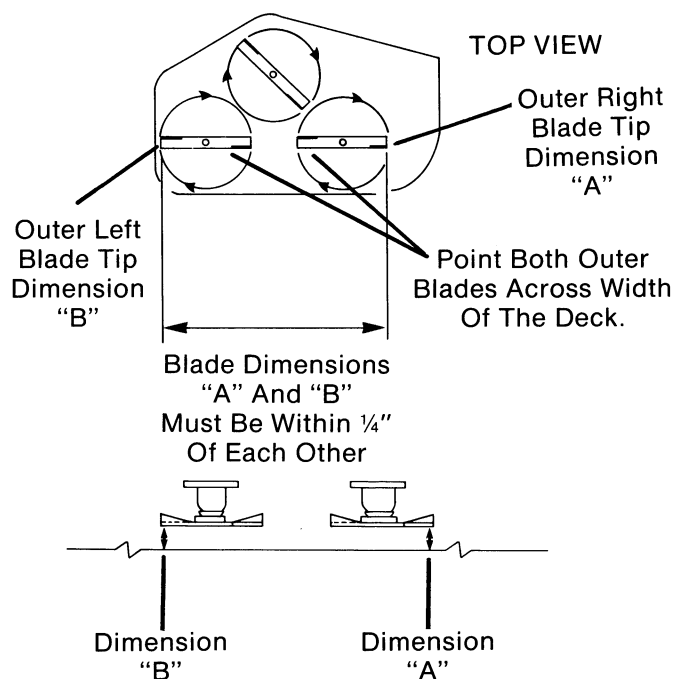

FIG. 27
- a. Check mower level by turning blades so the two outer blades are pointing across the width of the deck. (Fig. 27)
- b. Using the same gauge described in step "b" of "MOWER PITCH". Position gauge under outer tip of right rear blade. (Fig. 27) Thread capscrew out of spacer until head of capscrew touches bottom of outer right blade tip. Hold capscrew and spacer in this position and remove from under mower deck. Measure overall length of capscrew and spacer and record this dimension. Repeat this procedure at the outer tip of left rear blade. Record this dimension.
The blade dimensions, from right to left must be within  $\frac{1}{4}$ " of each other. (Fig. 27)